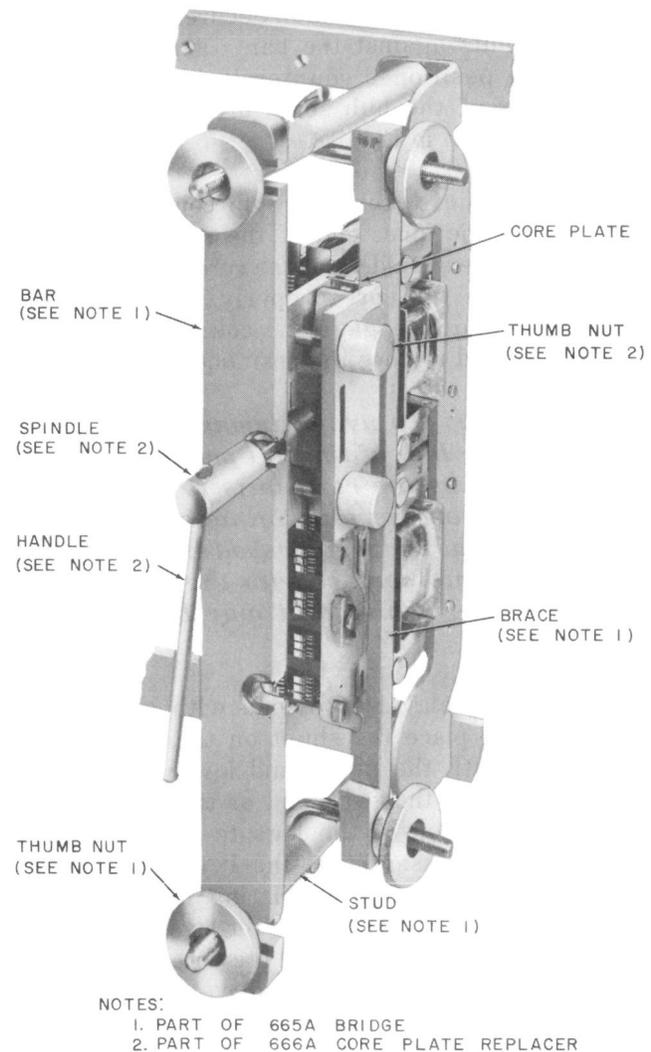

Fig. 13—287- and 288-Type Relays Mounting Core Plate
- (1) Hold the brace of the 665A bridge with the end marked TOP uppermost and the designation TOP facing the left. If there is sufficient clearance, insert the brace at the right of the relay being worked on and turn it 90 degrees so the designation TOP faces the front. If there is insufficient clearance to insert the brace, increase the clearance as covered in (2).
- (2) Make the adjacent relay to the right busy if this is practicable. Loosen the mounting screws of the relay. Also loosen the studs of the 665A bridge. Spread the relays slightly and tighten the relay mounting screws and the studs of the bridge. Insert the brace as described in (1).
- (3) Insert the hook bolts through the holes in the brace and engage the hooks with the studs as shown in Fig. 13. Position the brace so it is in line with the relay card. The brace limits the lateral strain on the relay during mounting of the core plate. Place the thumb nuts on the hook bolts, hold the brace against the core legs, and then turn the thumb nuts
in the core plate are in line with their associated legs of the core, the armature extends through the center hole in the core plate, and the spindle of the replacer is in the notch of the bridge bar as shown in Fig. 13. While holding the bar of the bridge against the shoulders of the studs, shift the bar so the spindle of the core plate replacer seats in the notch in the bar and is perpendicular to the front of the bar. Securely tighten the thumb nuts against the bar. Turn the spindle of the replacer counterclockwise until the core plate butts on the shoulders of the top and bottom core legs.